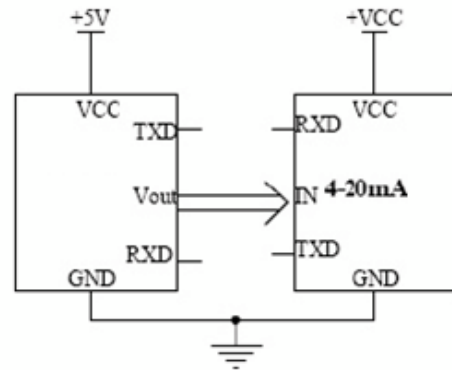

Figure2
- ③ The V_{out} can be connected directly 4-20 mA convert the input circuit. As shown in figure 2: